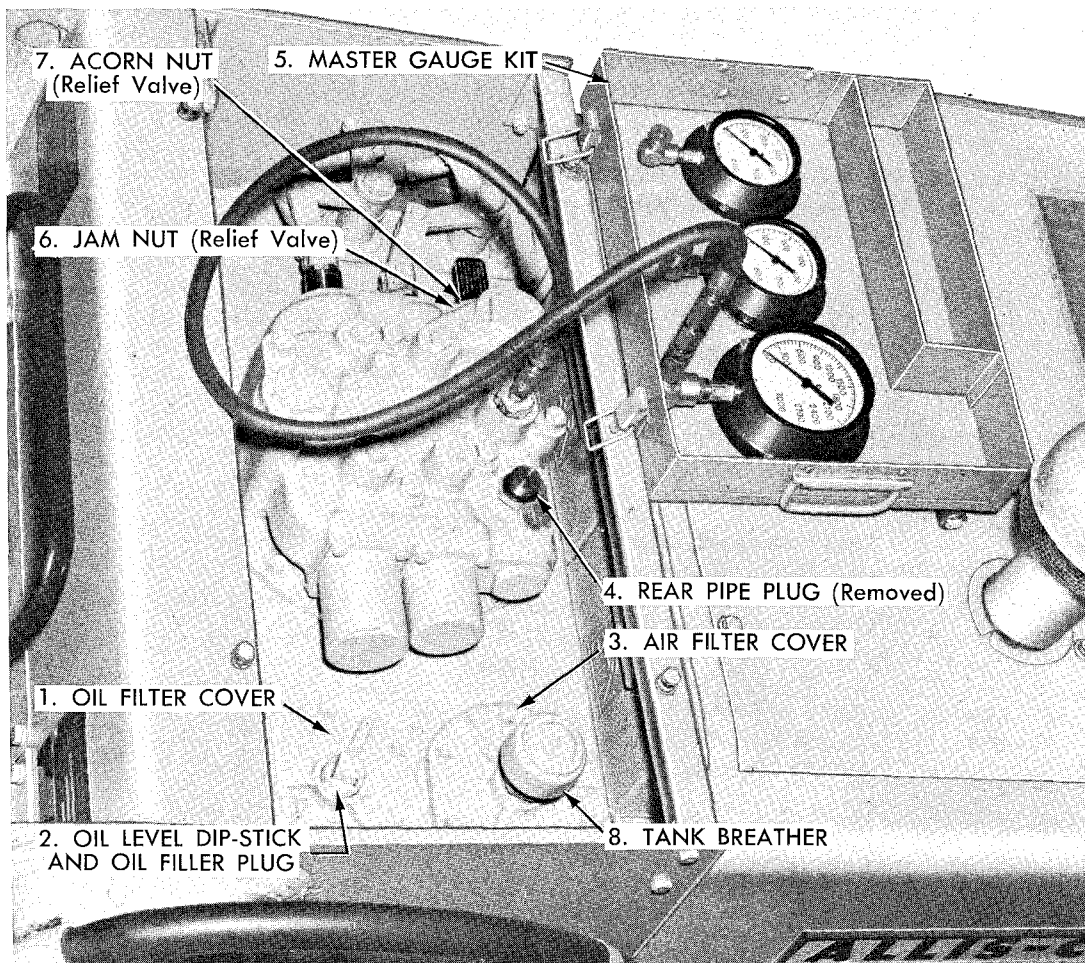

Figure 69. Checking Hydraulic Relief Valve Pressure
The oil filter, located inside the hydraulic tank as shown in Fig. 68 has a micron element which should be replaced after every 100 hours of operation or more often if conditions warrant. When the oil is at operating temperature, all the oil is 100% filtered. Refer to Fig. 69 and replace the oil filter element as follows:
1. Thoroughly clean filter cover and surrounding area (Fig. 69).
- b. Refer to Fig. 69, remove rear pipe plug from loader control valve and install a 3000 psi capacity pressure gauge as shown.
- f. To adjust pressure relief valve, remove pressure relief valve acorn nut (Fig. 69) and loosen jam nut on adjusting screw. First back off adjusting screw about 2 turns. Carefully turn adjusting screw "IN" to increase pressure as necessary. The valve carries an instruction plate which states:
An oil level dip-stick, attached to the oil filter plug (Fig. 69) is provided in the left front corner of the hydraulic tank. The oil level should be checked after every 10 hours of operation by removing the dip-stick and oil filler plug.